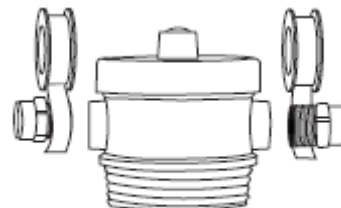

Figure 1
3. Wrap Teflon® tape (2 1/2 wraps) around the 3/4" MNPT x 1/2" (1,27 cm) fitting for copper pipe in a clockwise direction (see Figure 1) and firmly assemble into filter head. Do not use pipe sealant (dope), as solvents in some types of pipe dope may cause damage to plastic fittings. Do not overtighten, overtightening can cause damage to filter head.